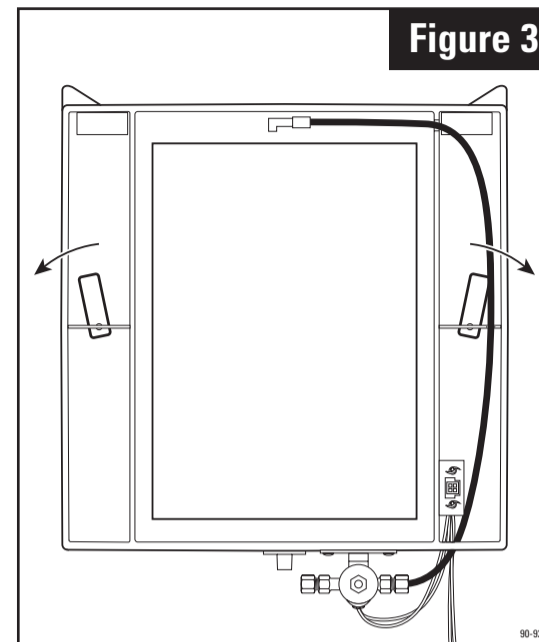

Figure 3
**4.** While pressing the base against the plenum, reach through the center opening and turn left and right swing latches down to secure the base onto the plenum. (See Figure 3)
**5.** Reinstall the Water Panel® evaporator assembly into the base, with the bottom of the scale control insert (5) sitting firmly in the inside of the drain spud attached to the base. Push the Water Panel® evaporator assembly in at the top between the retaining ribs that hold the assembly in place in a vertical position. Reinstall cover assembly by hooking at the top of base assembly and latching at the bottom.